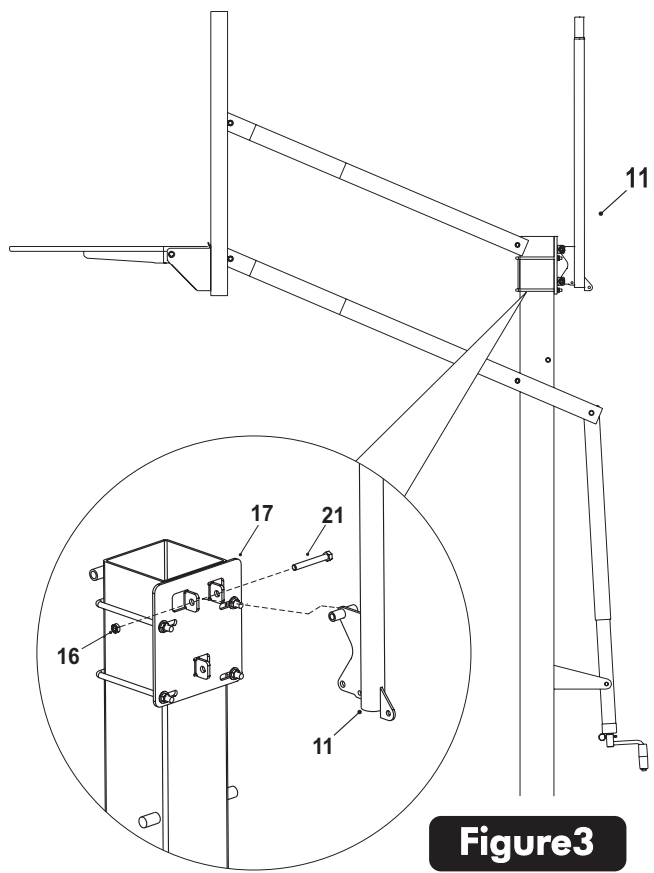

**Figure 1**
1. Crank Actuator until unit is in its lowest position so that the lower arms are against stops. See Figure 1.
2. Remove bolt and nut that attaches Actuator (B) to lower arms and place cable stirrup (#23) over the top of the Actuator. Slide Pivot tube (A) through Stirrup and Actuator until equal amounts stick out through both sides of Actuator. Re-attach with bolt and nut as shown in Figure 1.